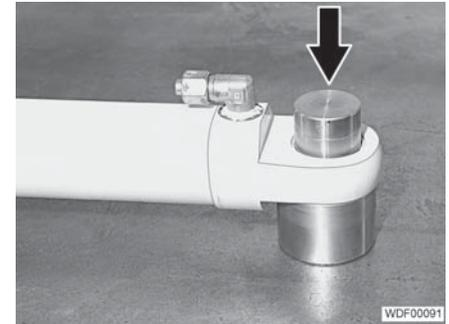

Fig. 111 Expulsion tool
- Drive out the pivot bearing downwards using a suitable expulsion tool (Fig. 111).